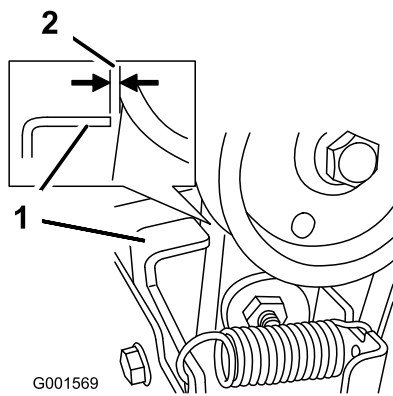

Figure 48
3. With the auger/impeller lever disengaged, ensure that the gap between the auger clutch assembly and the tab is $1/16$ inch (1.5 mm) (Figure 48).